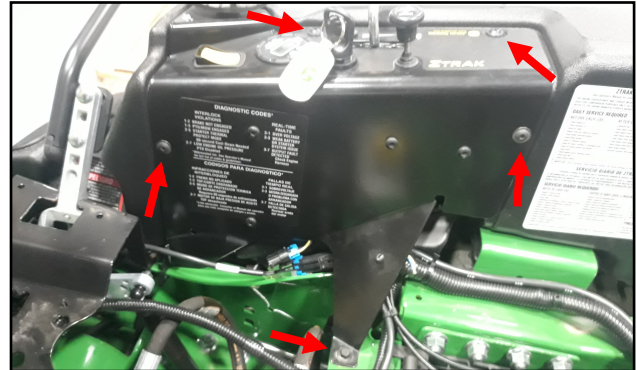

Fig. 1.16 (Instrument Panel Fasteners)
- 1.16** Remove the (4) Torx fasteners and bolt securing instrument panel to right side fender. See Figure 1.16.